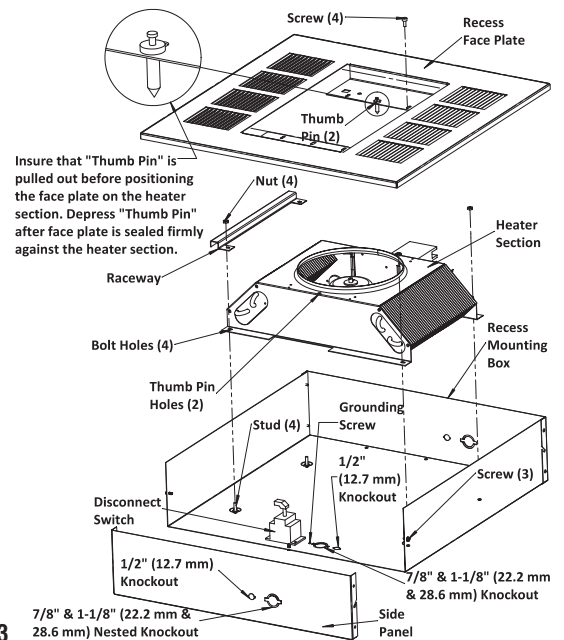

Figure 3
1. Remove the recess mounting box (Figure 3) from the carton containing the Recess Mounting Enclosure, Type REA.
2. Remove three screws and the side of the recess mounting box to allow for easier wiring (Figure 3).
3. Remove one of the knockouts close to the ground screw and install a cable or conduit connector (Figure 3).
4. Install the optional disconnect switch (if required as shown in Figure 3).
8. Position the heater section over the studs in the recess mounting box (Figure 3).
9. Push the heater section onto the studs and securely tighten two nuts (supplied) on the studs to secure the half of the heater section opposite the sleeved wires to the recess mounting box. Push the raceway onto the studs ensuring that the sleeved wires are in the raceway and securely tighten two nuts (supplied) on the studs to secure the raceway and the other half of the heater to the recess mounting box (Figure 3).
10. Remove the Recess Face Plate (Figure 3) from the carton containing the Recess Mounting Enclosure, Type REA.
**NOTE:** Insure that the “thumb pin” in each end of the discharge grille opening is pulled outward to allow the body of the thumb pins to fit into the holes in the heater section. (Figure 3.)
13. Install and securely tighten four screws (supplied) to secure the recess face plate to the heater section (Figure 3).